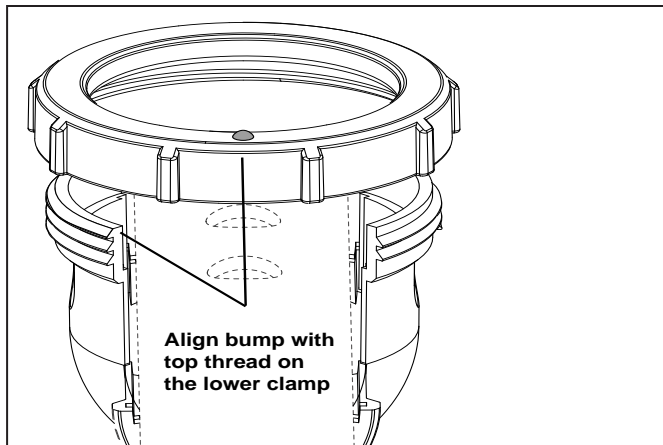

Figure 12. Locking Ring Alignment
13. Position the locking ring in proper alignment, making sure the bump aligns with the top thread (see Figure 12).